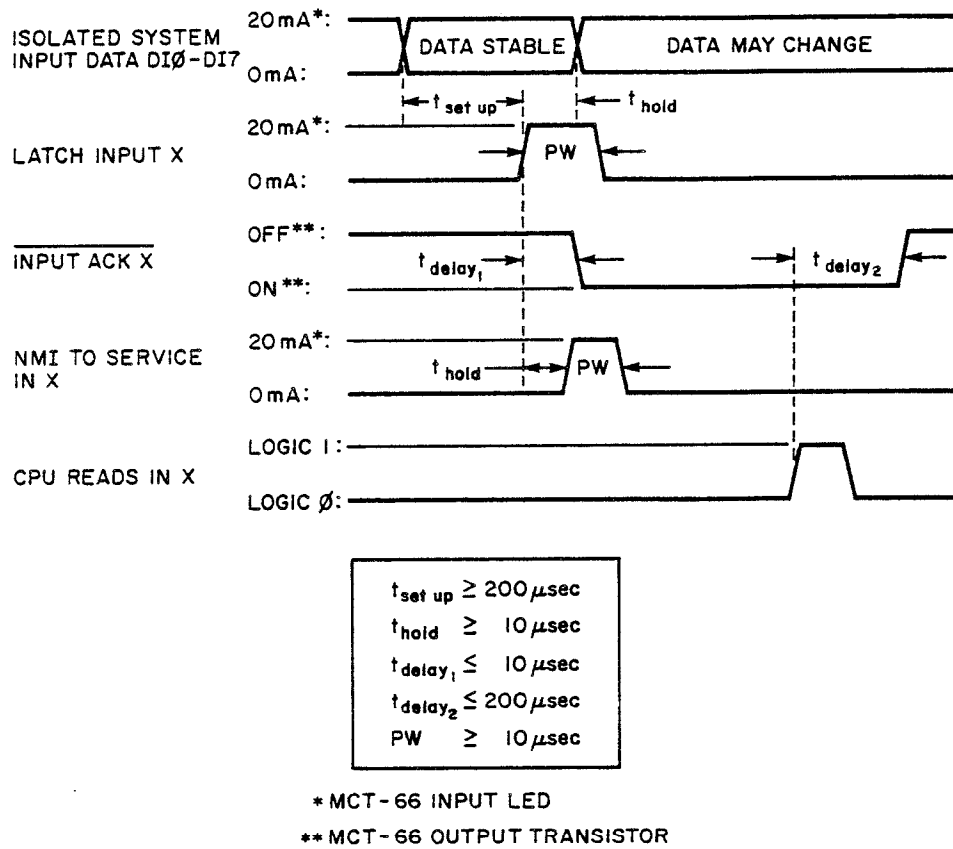

Figure 14: INPUT DATA TIMING REQUIREMENTS
(B) After observing a 200 uSec (min) set-up time, the parallel data is loaded into an 8-bit latch (IC6 for IN 0; IC8 for IN 1; IC11 for IN 2) by sourcing 20 mA to control line LATCH INPUT X (X=0,1,2) for at least 10 uSec. The input data must also observe a 10 uSec (min) hold time after LATCH INPUT X goes active (see Figure 14).